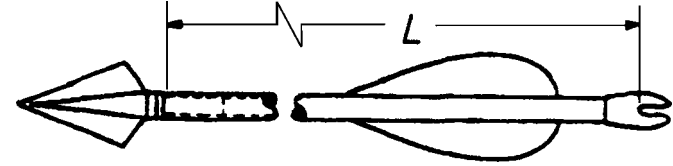

FIG 1. Arrow Assembly Employing an Interchangeable Point Insert.
1. For arrows incorporating interchangeable point system inserts and other point or adapter types that insert into the open forward end of the arrow shaft, the designated point is the front end of the arrow shaft, often referred to the "cut length" (Fig 1, p.13).